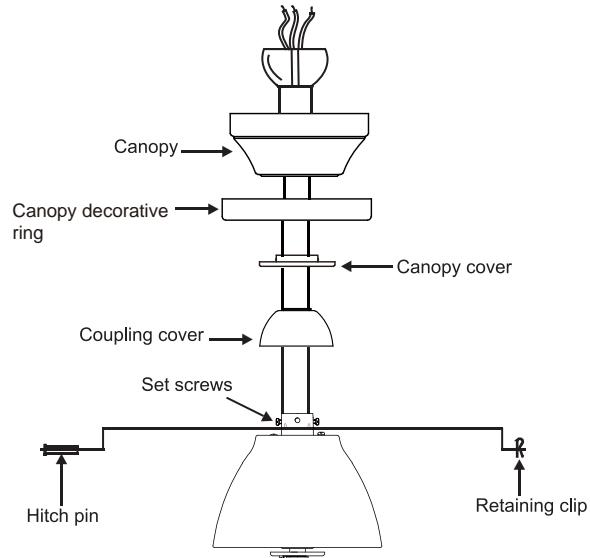

Fig. 11
Step 9. Slip the coupling cover, canopy cover, canopy decorative ring and canopy onto the downrod. (Fig. 11)